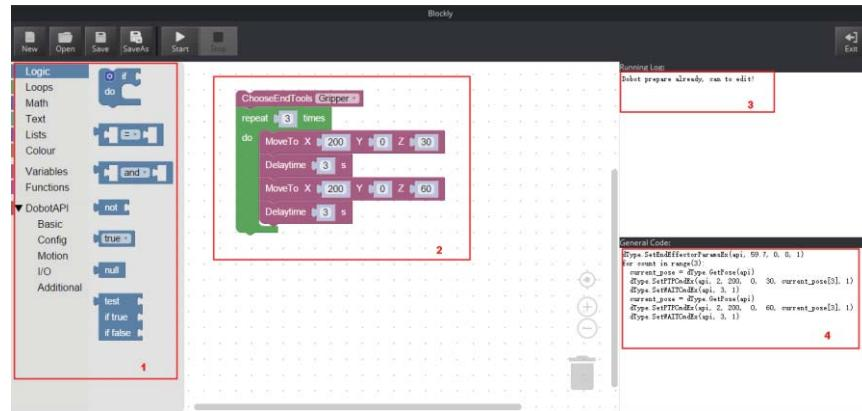

Figure 5.181 Blockly graphic programming
**Step 2** Drag the blockly module on the left pane of the **Blockly** page to program, as shown in Figure 5.181.
The demo in Figure 5.181 is described as follows.